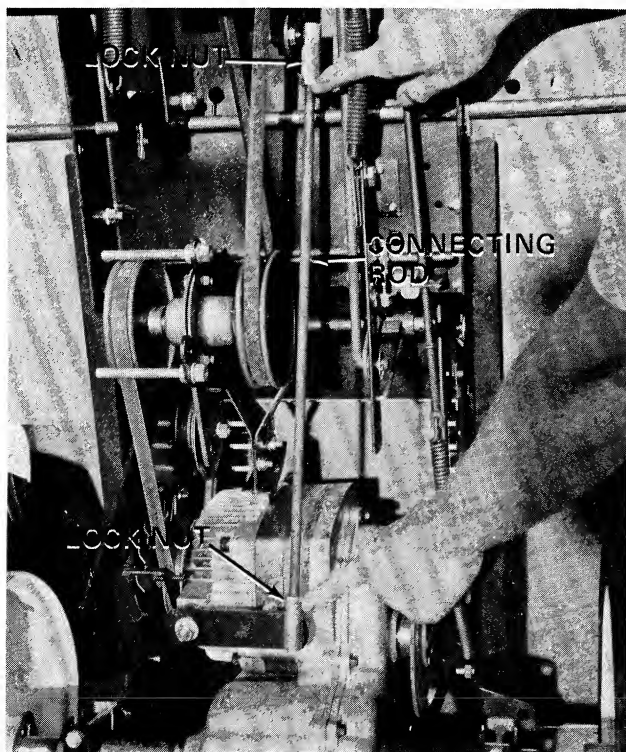

FIGURE 9
2. Loosen both lock nuts on both ends of the connecting rod. See figure 9.